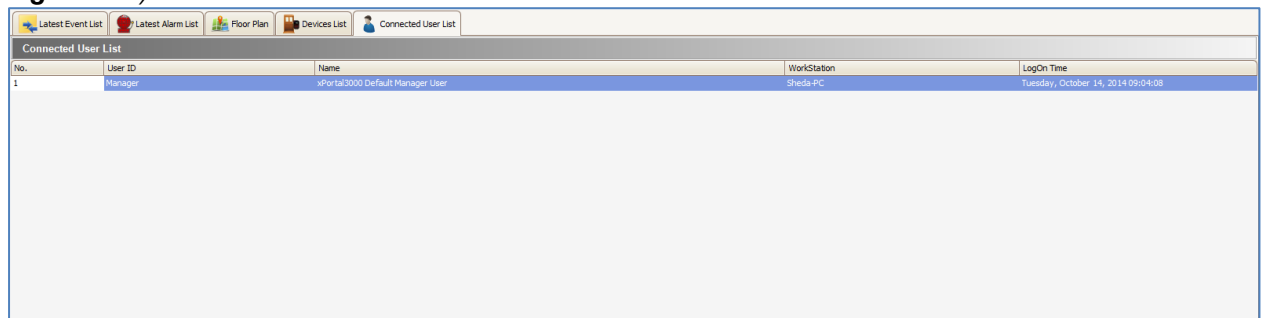

Figure 286 - Connected User List
- Connected User List will display the all the System User that connected to the system (Refer **Figure 286**).